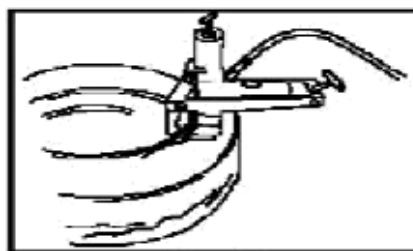

Figure 5
3. Maintain the bead breaker, so that it is nearly perpendicular (90°) to the rim. (See Fig. 5.) If necessary, adjust the position of the bead breaker.